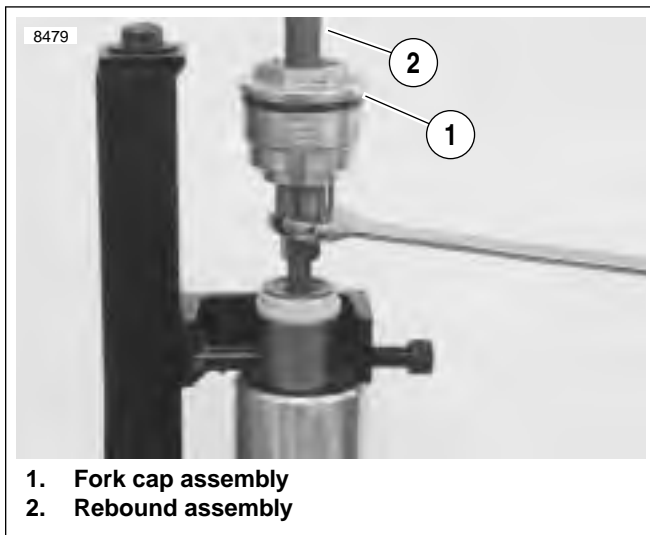

Figure 2-72. Rebound Assembly and Fork Cap Assembly
6. See Figure 2-72. Tighten the damper locknut (10) to 22-30 ft-lbs (30-40 Nm).
21. See Figure 2-72. Hold damper rod assembly (3) and install fork cap (1) on damper rod assembly (3) tightening to 38-42 ft-lbs (51-57 Nm).